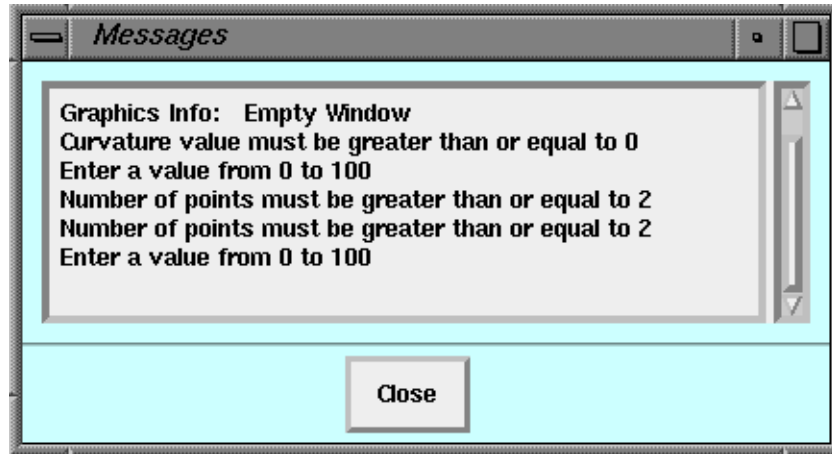

Figure 11. Messages
**Messages** - Displays the **Messages** window (Figure 11). This scrollable window keeps a running log of information, warning, and error messages. The hot key for this menu pick is <Ctrl>M.